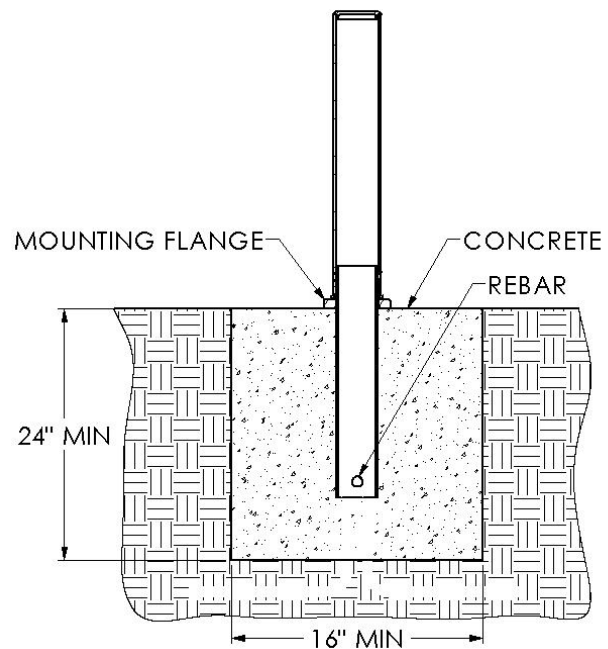

Figure 3: Bollard Tube Assembly Embedding Details
1. Place bollard(s) in the desired location and orientation(s). The flat edge of the alignment guide should face the front of the desired orientation. The bottom edge of the mounting flange should be flush with the top of the concrete (See Figure 3).
1. Place bollard(s) in the desired location and orientation(s) and over the conduit stub(s). The flat edge of the alignment guide should face the front of the desired orientation. The bottom edge of the mounting flange should be flush with the top of the concrete (See Figure 3).